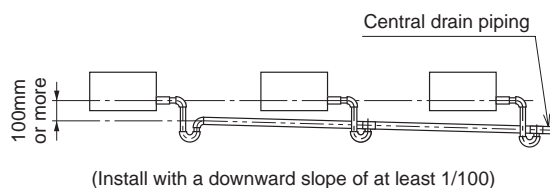

Fig. 7-2
- Keep the drain pipe short and sloping downwards at a gradient of at least 1/100 to prevent air pockets from forming. (Refer to Fig. 7-2)
- If you are using central drain piping, follow the procedure outlined in the figure 7-2.